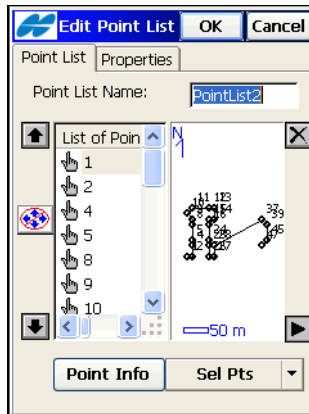

Figure 6-21. Add Point List – Point List Tab
2. To edit a point list, select the point list and tap the **Edit** button on the *List of Pt Lists* screen. In the *Edit Point List* screen displays (Figure 6-21) and shows the Point List Name and selects the points for the list.
Adding a point to the Point List can be performed in two ways; either through the map or through the **Sel Pts** button (Figure 6-21).